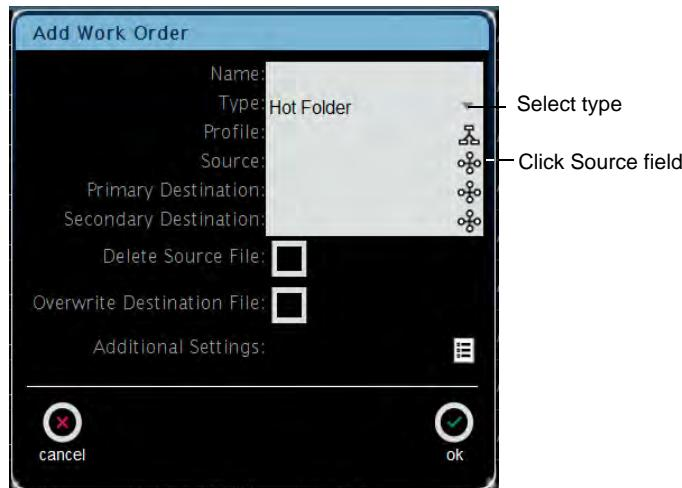

Figure A-1 Add Work Order Screen
2. As an example, select a **Hot Folder** as the **Type**, as shown in Figure A-1.
3. Click on the **Source** field in the **Add Work Order** screen, as also shown in Figure A-1.